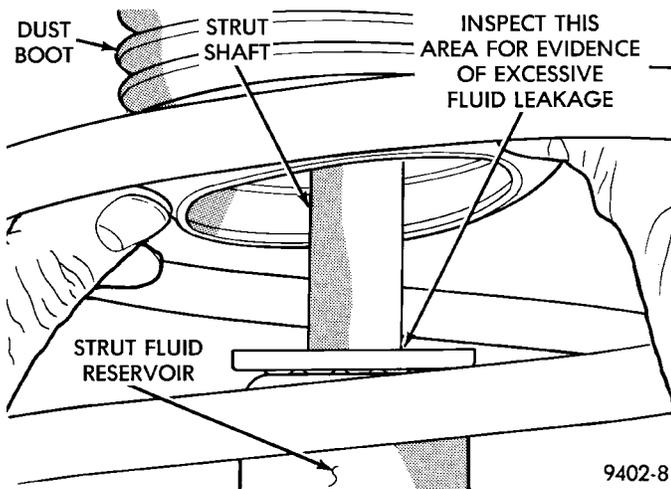

Fig. 9 Strut Assembly Leakage Inspection
- (3) Lift dust boot (Fig. 9) and inspect strut assembly for evidence of fluid running from the upper end of fluid reservoir. (Actual leakage will be a stream of fluid running down the side and dripping off lower end of unit). A slight amount of seepage between the strut rod and strut shaft seal is not unusual and does not affect performance of the strut assembly. Also inspect jounce bumpers for signs of damage or deterioration.